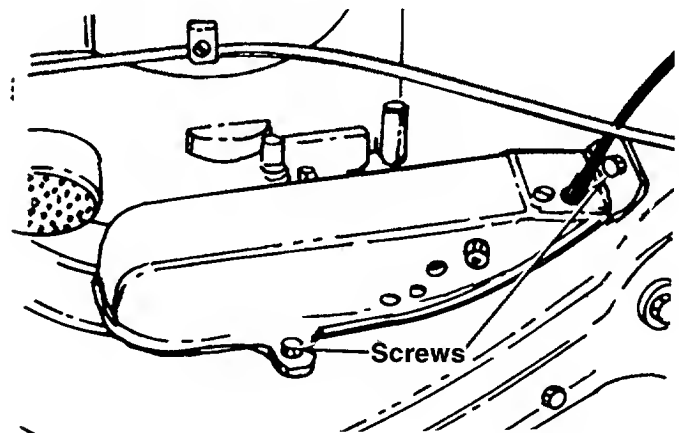

FIGURE 23.
3. Remove the three screws which hold the belt guard (and idler assembly). See figure 23.